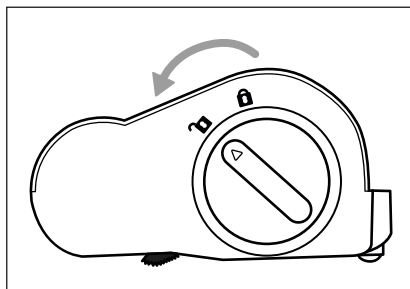

Fig. 22
- 2) Unlock the rotary brush **19** by turning the rotary brush release **18** towards the symbol **1a** (open) (see Fig. 22).